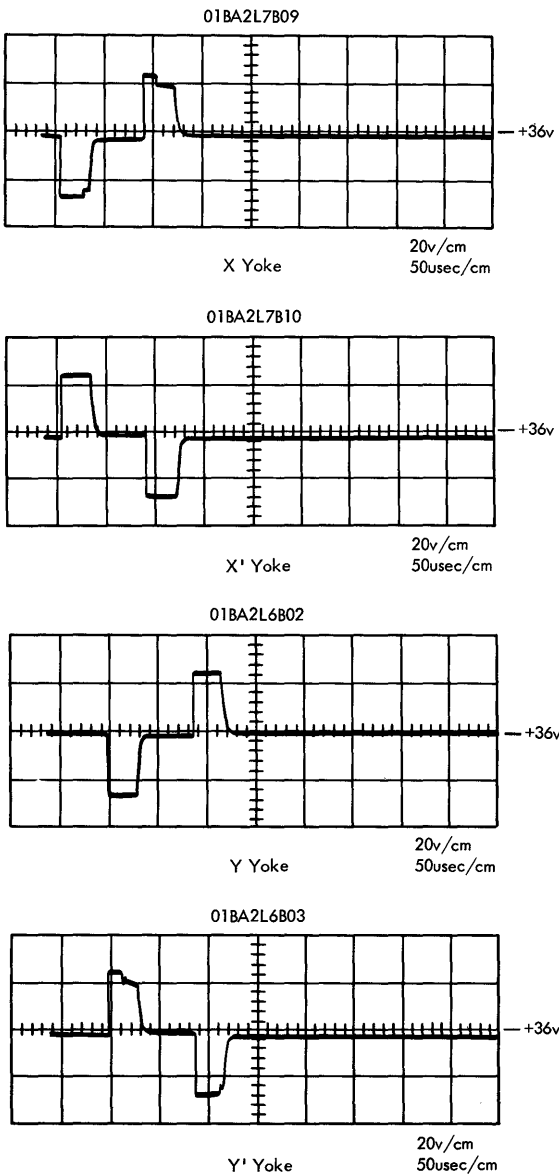

Figure 1-13. Yoke Waveforms, Bit 0, and Bits 5 Through 9 Active
21. Turn on power, and check CRT for approximately a 6-inch square. Observe yoke waveforms at points indicated in Figure 1-13.